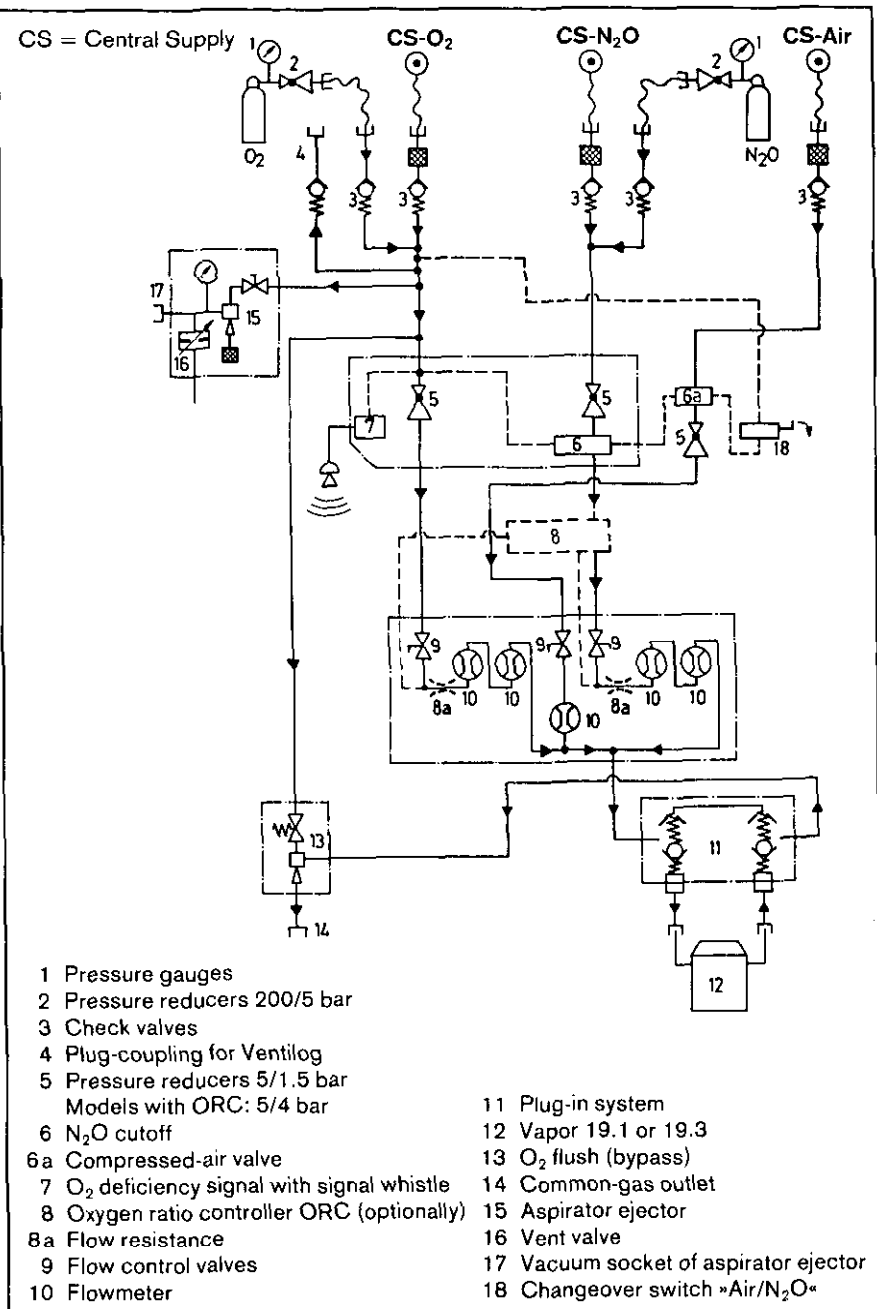

Fig. 25 Functional diagram (Model Sulla 808 »Air«, optionally with ORC)
12.1 Design and function (Fig. 25)